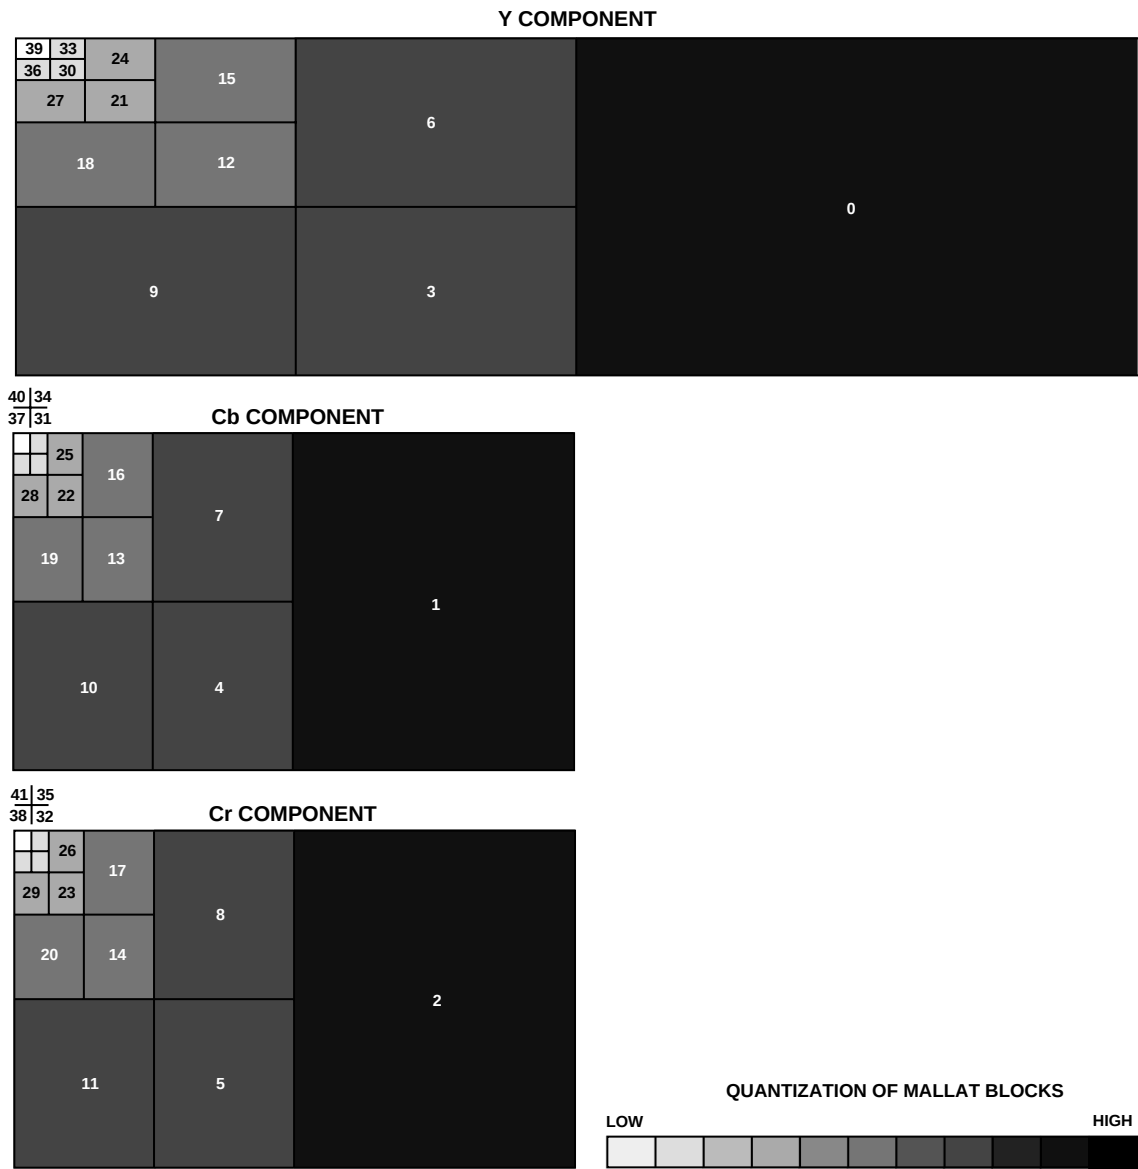

Figure 10. Typical Quantization of Mallat Data Blocks (Graphed)
Figure 10 shows how a typical quantization pattern applies over Mallat block data. The high frequency blocks receive much larger quantization (appear darker) than the low frequency blocks (appear lighter). Looking at this figure, one sees some key point concerning quantization: (1) quantization relates directly to frequency in Mallat block data and (2) levels of quantization range widely from high to low frequency block. (Note that the fill is based on a log formula.) The relation between actual ADV611/ADV612 bin width factors and the Mallat block fill pattern in Figure 10 appears in Table III.
¹⁷The Mallat block numbers, Bin Width factors, and Reciprocal Bin Width factors in Table III correspond to the shading per-cent fill) of Mallat blocks in Figure 10.